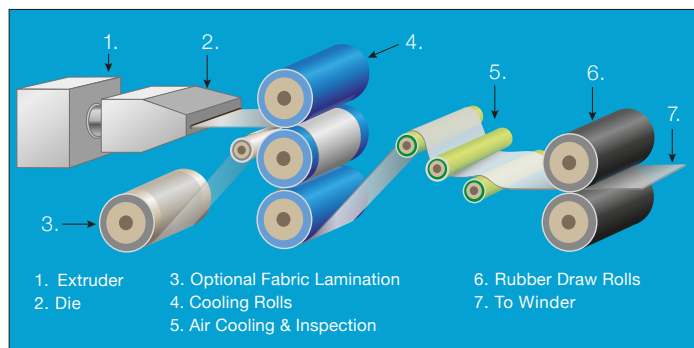

Figure 2: Film and Sheet Extrusion Line
**Procedure:** The process for extruding film and sheeting is illustrated in **Figure 2**. Lubrizol TPU pellets are compacted and melted in the extruder barrel. The high viscosity melted material is forced through a properly designed horizontal coat hanger die, cooled as the web is wrapped around the temperature-controlled polishing rolls and then rolled up as needed on storage reels.